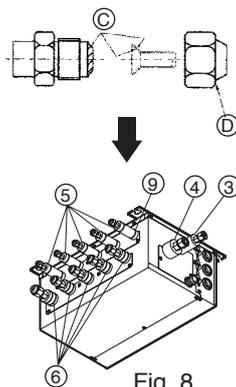

Fig. 8
- 4) Press the pipe covers ③ and ⑤ on the liquid piping against the unit and wrap to hold in place. (Fig. 8)
- 5) Press the pipe covers ④ and ⑥ on the gas piping against the unit and wrap to hold in place. (Fig. 8)
- 6) Apply the supplied bands ⑨ at a position 10 ~ 20 mm from each end of the pipe covers (③ ④ ⑤ ⑥).
- 7) If the indoor unit is not connected, fit the supplied pipe covers (with caps, ⑦ and ⑧) to the branch box refrigerant piping connections to prevent condensation dripping from the pipes.
- 8) Clamp the pipe covers (⑦ ⑧) in place with the supplied bands ⑨.
- Ⓒ Apply refrigeration oil to the entire surface of the flared seat. (Fig. 8)